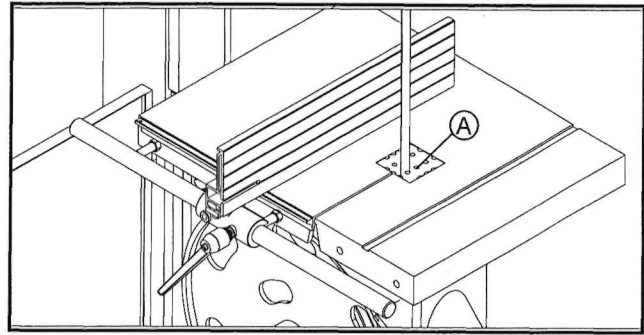
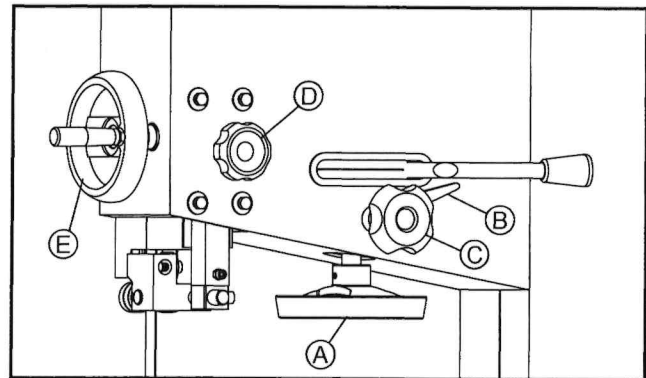

Fig.4.4.1
Fig.4.4.2
- To mount blade first remove the table insert (A of FIG.4.4.1) Place the blade onto the bandwheel checking the teeth are in a correct position, and then tighten the tension using the handwheel (A of FIG.4.4.2). The correct tension value is indicated on the tension scale inside the upper door, the indicated value corresponds to the width of the blade.
- Turn the bandwheels manually, checking that the blade does not interfere with any fixed parts and that the blade is placed correctly on the bandwheels. The points of the teeth should slightly protrude over the edge of the bandwheels. To adjust the blade position on the bandwheels slacken the locking lever (B of FIG.4.4.2), and then turn the knob (C of FIG.4.4.2): the blade will move inwards when turn the knob clockwise and the blade will move further out when turn the knob anticlockwise; A quarter of one circle is sufficient to make a noticeable displacement. Tighten the locking lever after the blade is positioned correctly.
The adjustable saw band guard should be positioned as close as possible to the workpiece. To adjust the height, release the locking knob (D of Fig.4.4.2) and turn the handwheel (E of Fig.4.4.2) to adjust the guard up or down. Lock the knob once the correct position of guard is obtained.